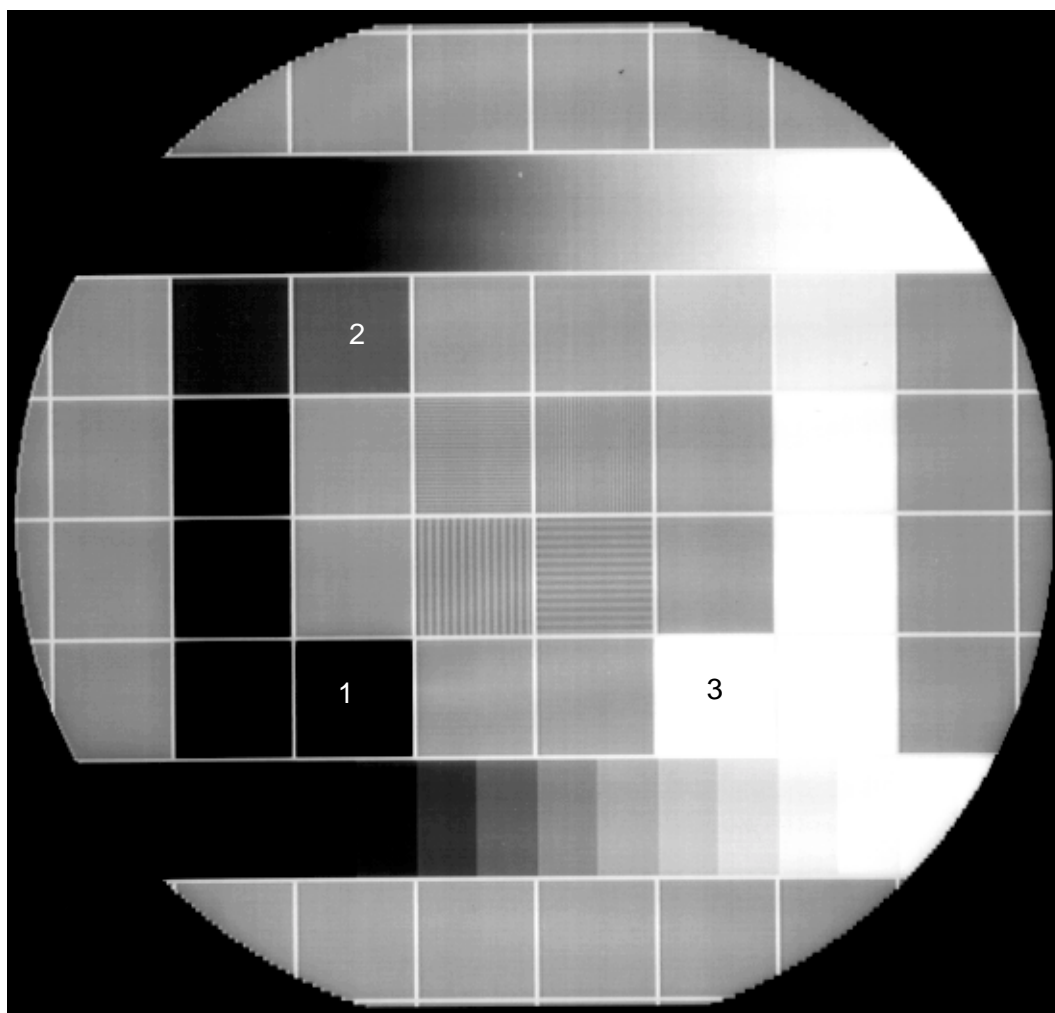

Fig. 1
- Change B until the 40% gray level (see Fig.1) corresponds to the nominal value for the film density  $D_{nom}$  (see Tables 3 to 6).